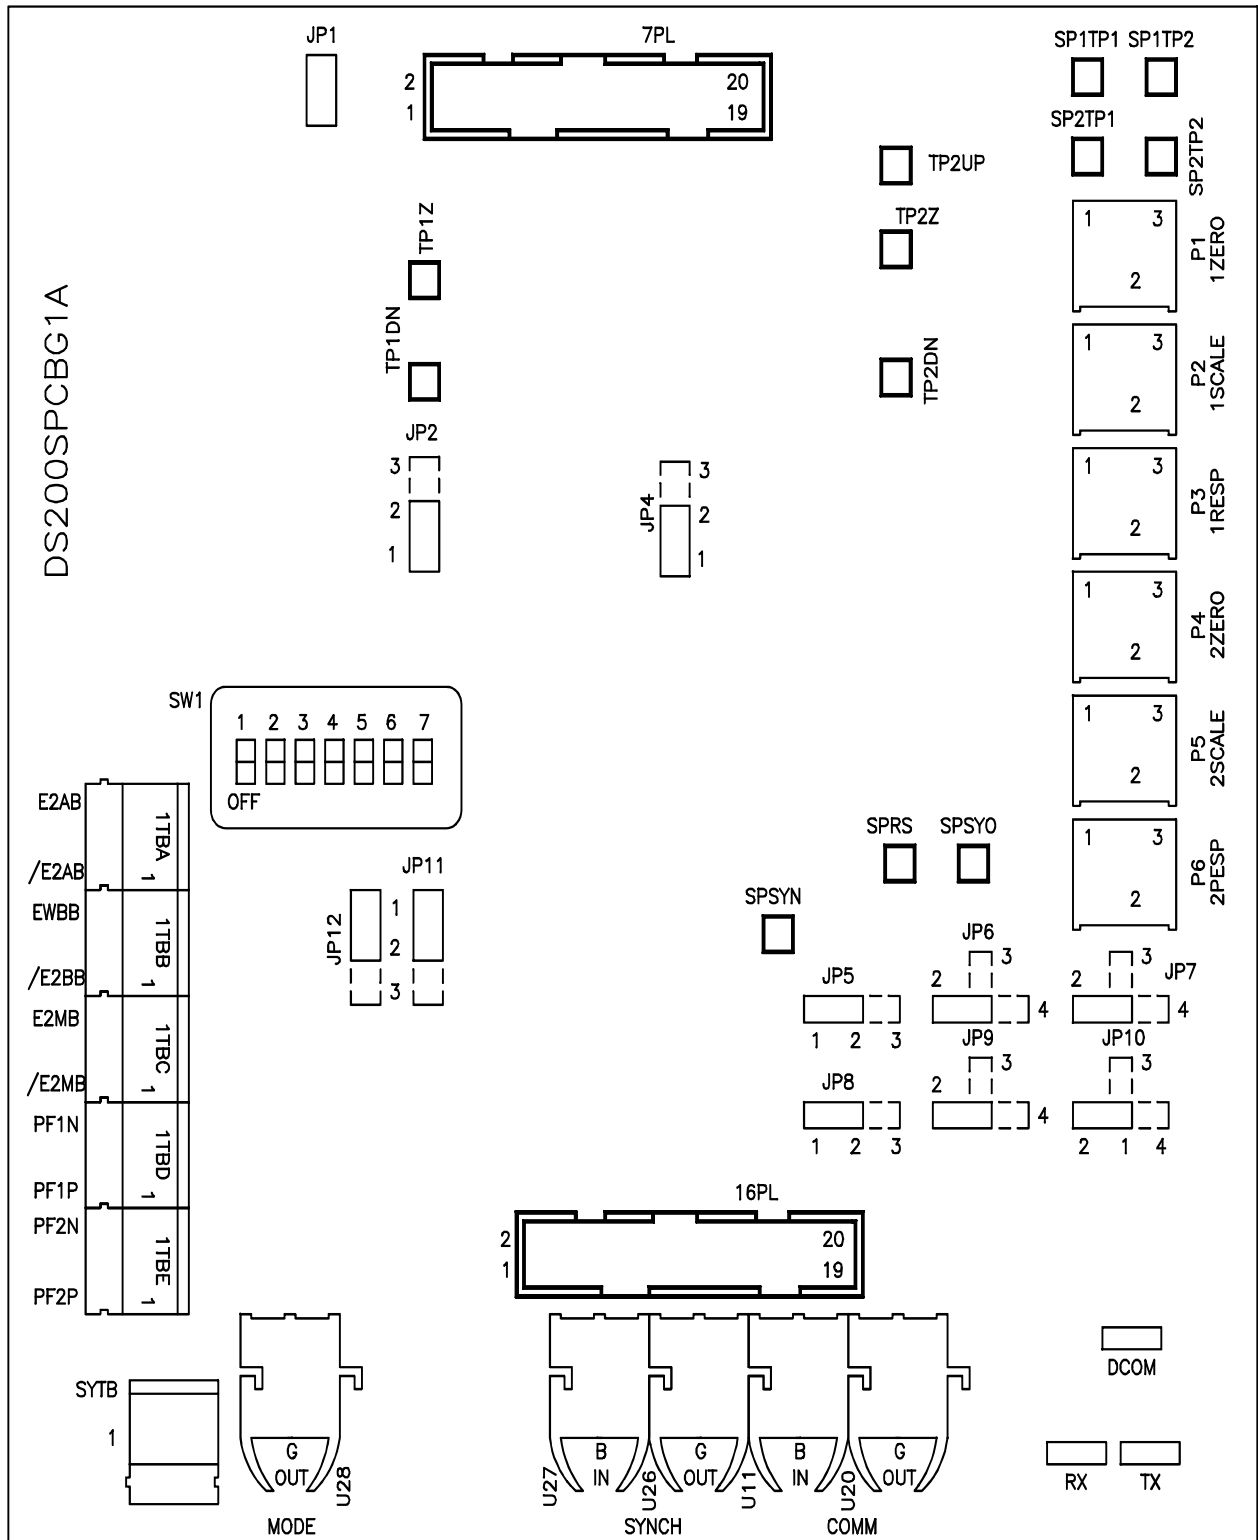

Figure 2. SPCB Board Layout Diagram
**When replacing an SPCB board, make sure that the jumpers and switches on a replacement board are placed the same as on the old board, unless the instructions indicate otherwise. Set each pot approximately the same as on the old board. (Figure 2 shows the locations of the SPCB board's jumpers, DIP switch, and pots.)**
The location of each I/O connector is shown on Figure 2. Encoder and channel inputs are received simultaneously through ribbon cable connector 16PL and terminal block 1TB. See Table 4 for the nomenclatures and descriptions of each pin/terminal.
Testpoints and signal nomenclatures are listed in Table 8. See Figure 2 for the location of each testpoint.